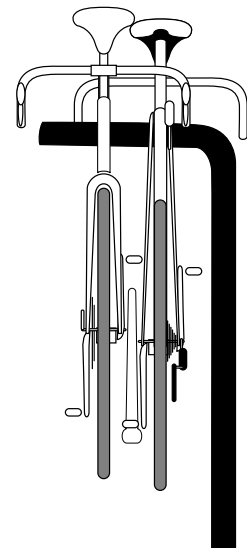

figure 4
1. Place the largest bicycle on first and position it closest to the vehicle. Make sure the bicycle is balanced in the Bike Tray (B) before strapping it in place.
3. Place successive bicycles on the rack in alternating directions. (See figure 4).